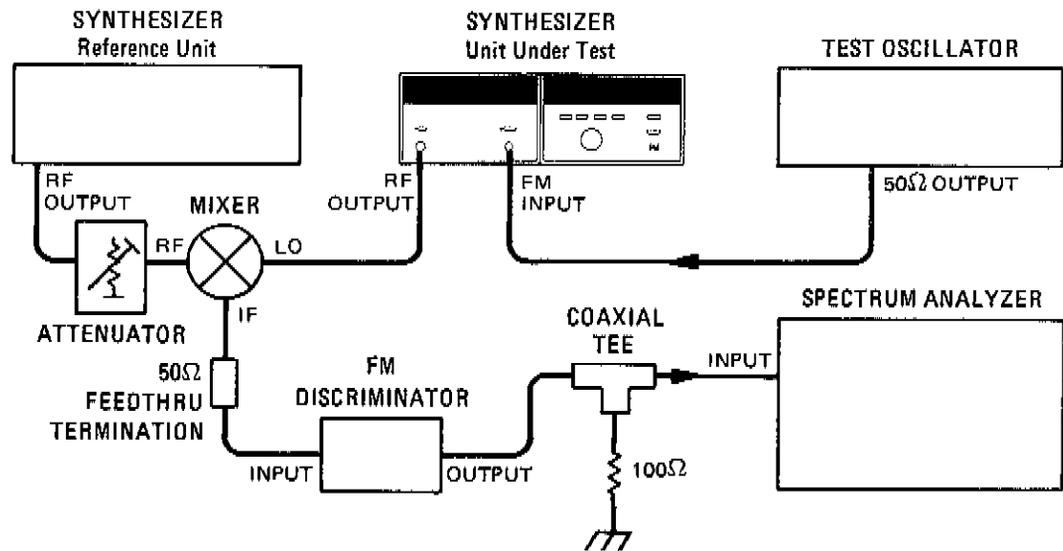

Figure 4-7. FM Distortion Test Setup
5. Connect the equipment as shown in Figure 4-7. Be sure that the Unit Under Test is connected to the mixer's LO port. Be sure that the 1 MHz Low Pass Filter is installed in the FM Discriminator.